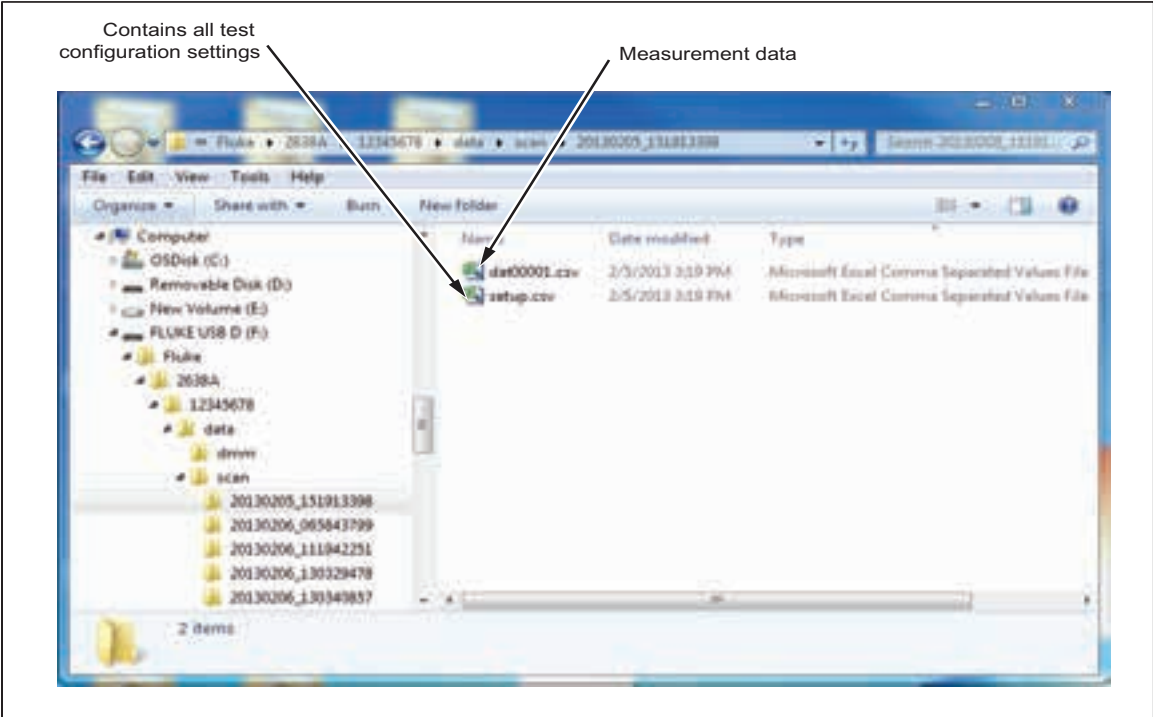

Figure 4-8. Setup.csv and Dat00001.csv Files
5. Navigate to the data folder as follows (see Figure 4-8 for an example of the folder structure):
- 6. Choose a file to open then double-click on the file. The time-stamped data folder contains two comma-separated values (.csv) files: **setup.csv** and **dat00001.csv**. The setup.csv file contains all the test parameters that were configured when the data was recorded. The dat00001.csv contains all of the recorded measurement data. See Figure 4-8.